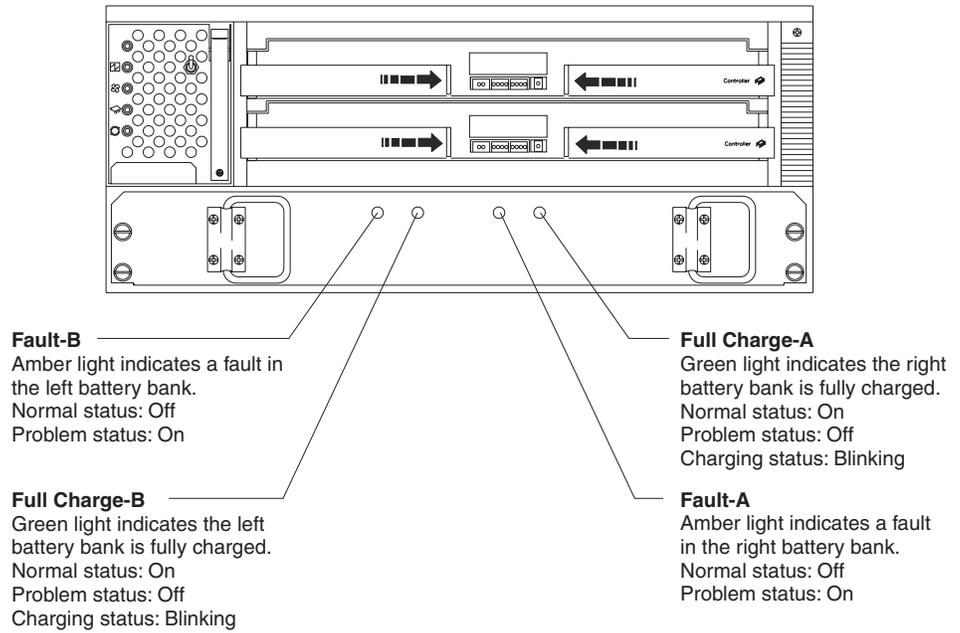

Figure 38. Battery CRU indicator lights
10. Check the battery indicator lights, as shown in Figure 38 on page 49.